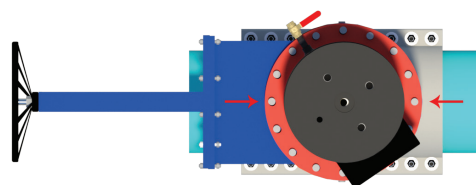

Figure 42 — Alignment nut placement for insertion housing alignment
4.1.2) Thread 2 alignment nuts onto the studs which connect the insertion housing to the temporary gate valve. Place these nuts at the locations shown in Figure 42.